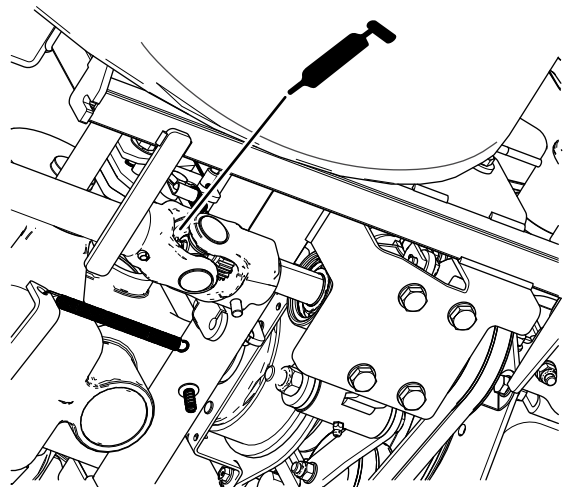

Figure 47
- Rear U-joint of the driveshaft at the PTO (Figure 47).